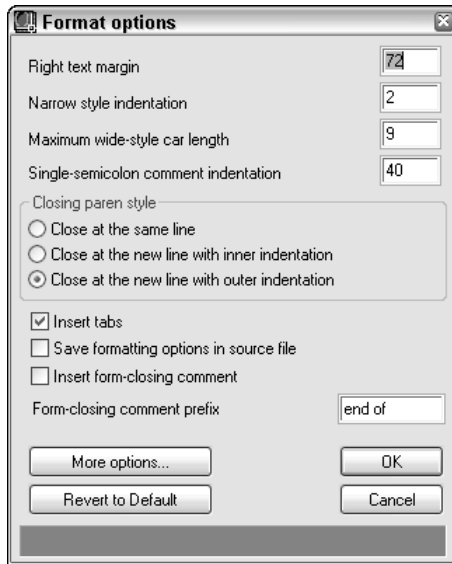

**Figure 35-8:** Use the Format Options dialog box to format margins and indentation in the Visual LISP editor.
- ♦ **; Single semicolon:** By default, Visual LISP indents a comment with one semicolon by 40 spaces. Choose `Tools ⇨ Environment Options ⇨ Visual LISP Format Options` to open the `Format Options` dialog box, shown in Figure 35-8, and change this value if you want. You can use this type of comment for running comments at the right side of your code. Because they're indented, they stand out from the body of your code.